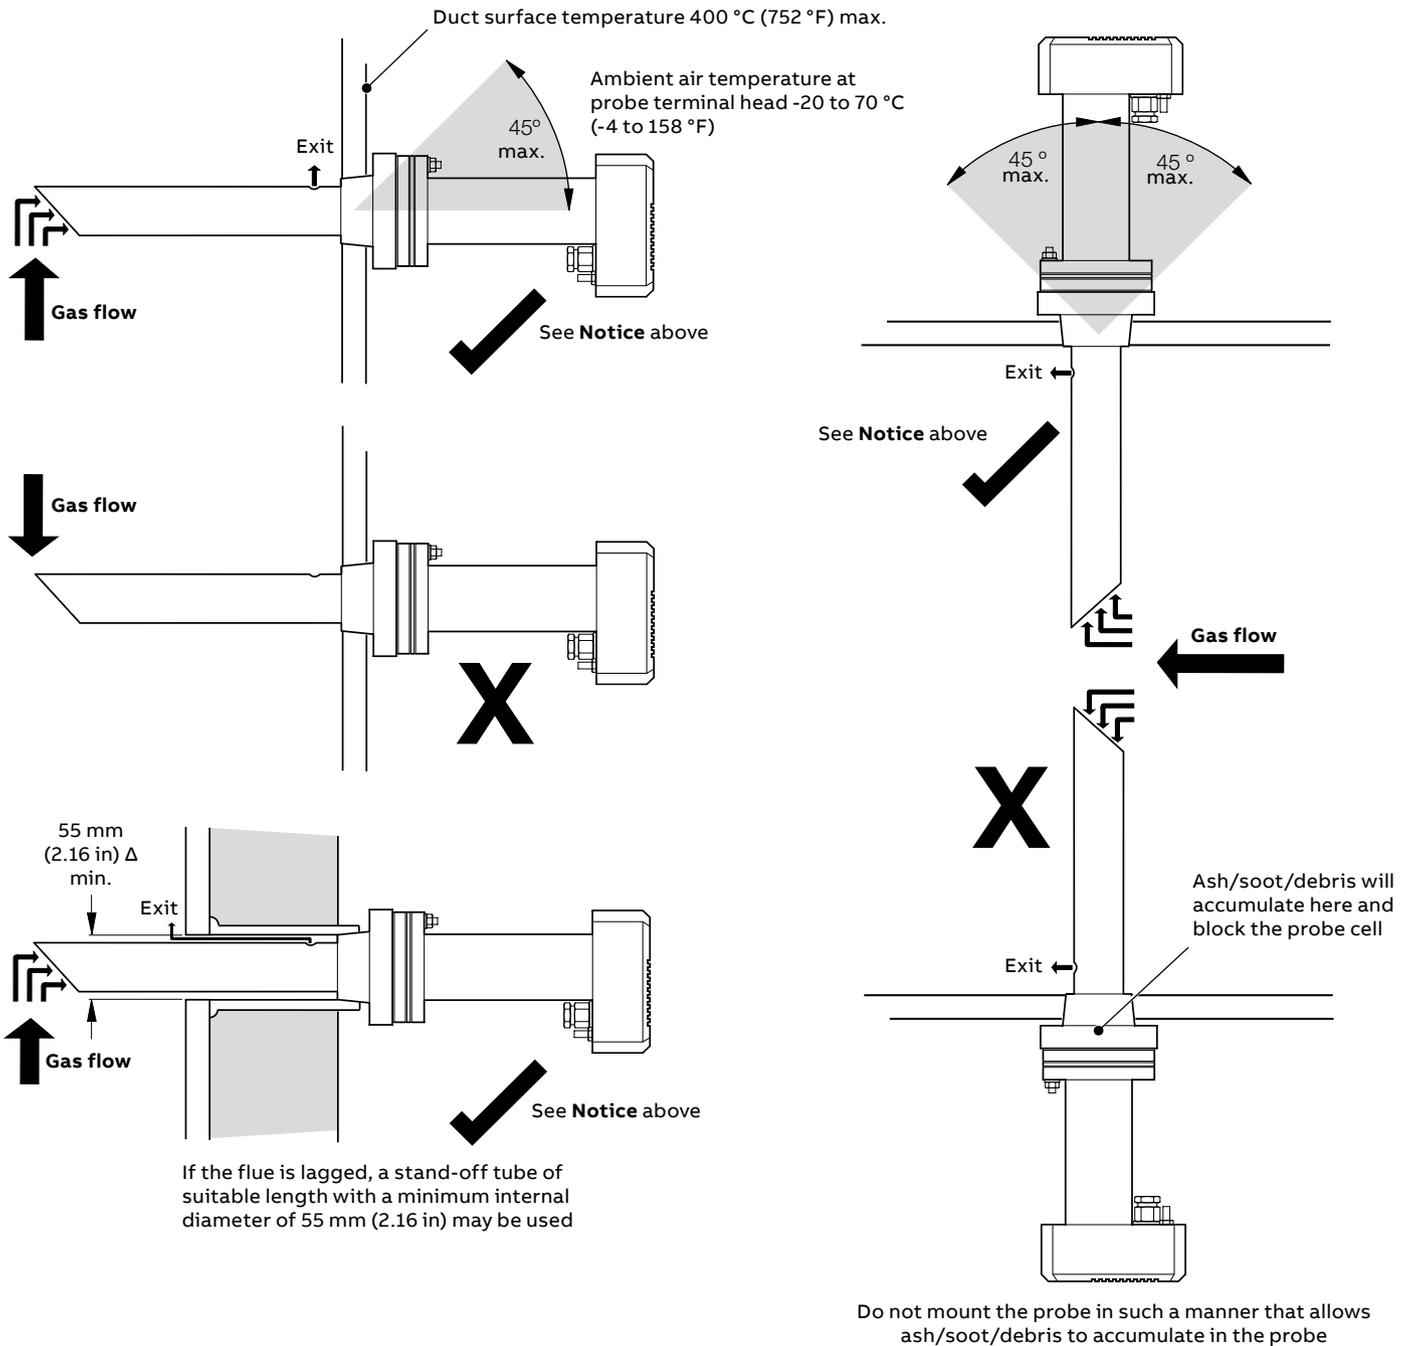

Figure 7 General mounting requirements
- 1 Cut a 75 mm (2.95 in) minimum diameter hole (A) in the flue wall.
- 2 Weld a 2 in NPT or 2 in BSP female threaded boss (B) (not supplied) into place, concentric with the hole in the flue.
- 3 Apply high temperature jointing compound to the threads (C) of the probe mount adapter and screw the adapter into the boss.
- 4 Locate a gasket (D) over the studs on the adapter – see Notes, left.
- 5 Insert the probe intake tube (E) through the adapter, ensuring that the open side of the intake tube tip faces into the gas flow – see Figure 7, page 10 and Warning (left).
- 6 Align the bolt holes (F) in the probe intake tube flange with the studs on the adapter ensuring that the open side of the intake tube tip continues to face into the gas flow.
- 1 Cut a 75 mm (2.95 in) minimum diameter hole (A) in the flue wall (B).
- 2 Weld a mounting plate AZ1000098 (C) into place, concentric with the hole in the flue.
- 3 Locate a gasket (D) over the studs on the adapter – see **Note**, left.
- 4 Insert the probe intake tube (E) through the adapter, ensuring that the open side of the intake tube tip faces into the gas flow – see Figure 7, page 10 and **Warning** (left).
- 5 Align the bolt holes (F) in the probe intake tube flange with the studs on the adapter ensuring that the open side of the intake tube tip continues to face into the gas flow.
- 1 Fit a suitable mating flange (customer-supplied) (A) to the flue wall.
- 2 Secure flange (B) to the flue-mounted mating flange (A) using suitable fixings (C) (not-supplied).
- 3 Locate a gasket (D) over the studs on flanged boss (B) – see **Notes**, left.